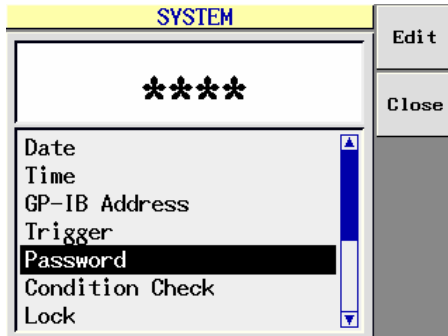

Fig. 3-5 Password Display Screen
1. Press the [SYSTEM] key to display the SYSTEM screen. (Fig. 3-5)